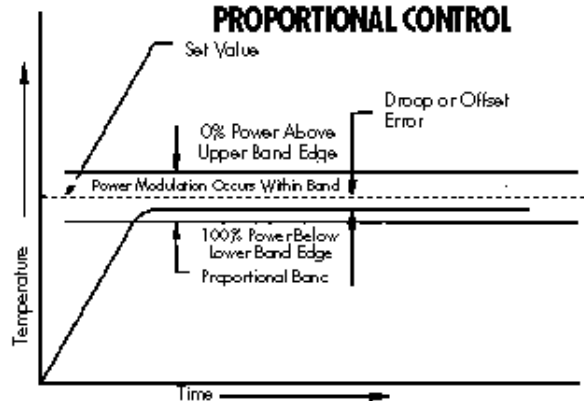

Figure 4.
2. Proportional. **Figure 4.**